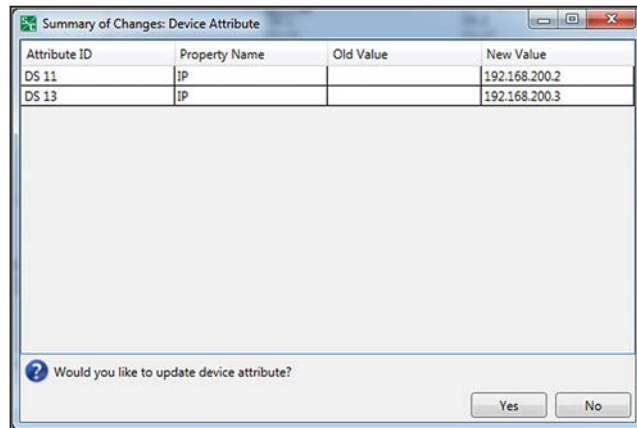

Figure 68. New values entered in the Summary of Changes dialog box.
STEP 8. Click on the button with the check at the top right to apply the change. The Summary of Changes dialog box will open. See Figure 68. Click on the **Yes** button to apply the changes.